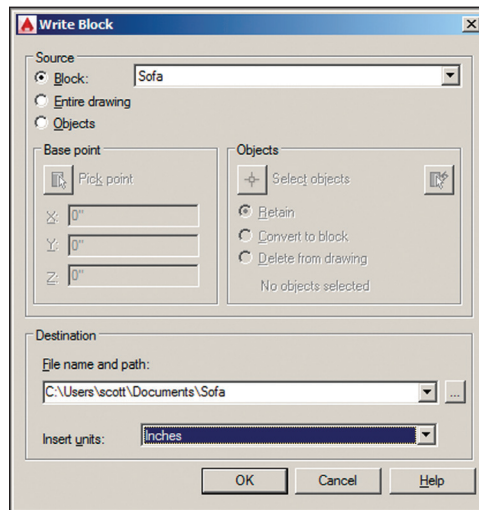

FIGURE 9.1 Writing a block to a file
1. Type `W` (for Write block) and press `Enter`. Select the **Block** radio button in the **Source** area of the Write Block dialog box. Select `Sofa` from the **Block** drop-down. Select `Inches` (or `Centimeters` for metric) from the **Insert Units** drop-down in the **Destination** area (see Figure 9.1). Click **OK**, and the geometry within the `Sofa` block definition is written to `Sofa.dwg`.